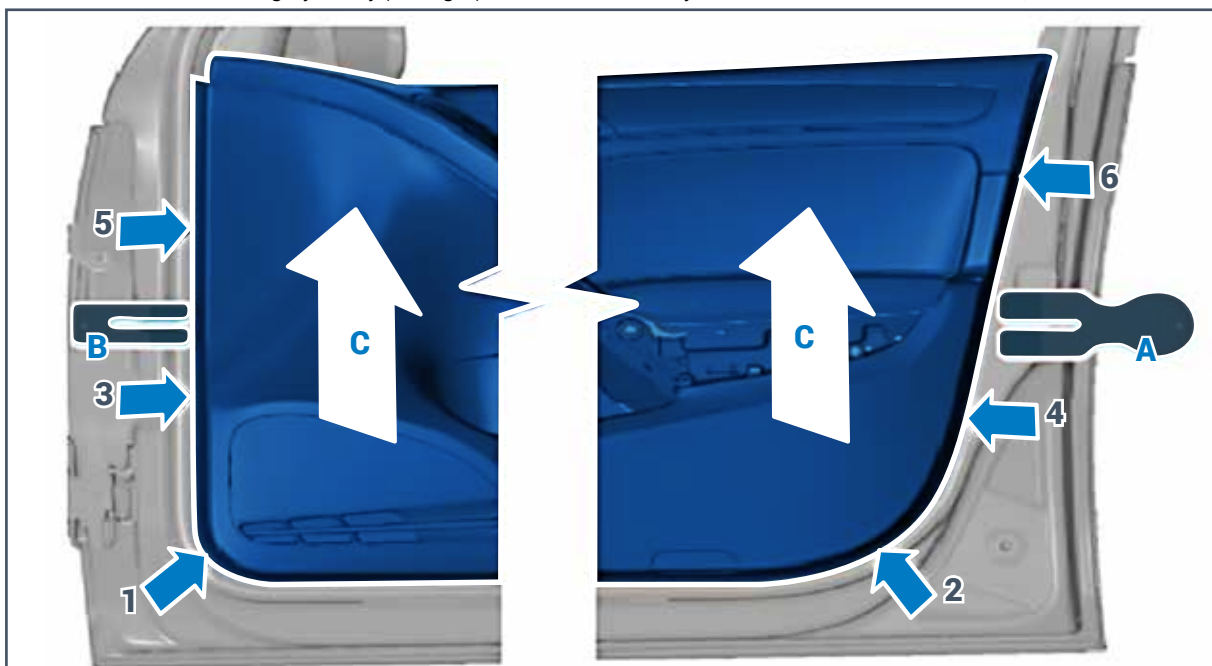

Fig. 11
7.1.2 Using a plastic lever, release all the covering clips according to the sequence shown (Fig. 11).
7.1.3 Lift the covering by firmly pulling upwards, as shown by arrow C in order to release it (Fig. 11).